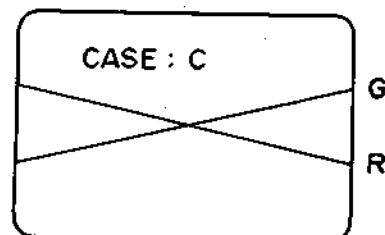

FIGURE 4
2. Observing RED and GREEN horizontal centre lines, connect the plugs with terminals according to one case (A), (B), (C), as shown in Figure 4.
11. If necessary, readjust centre convergence magnets and dynamic convergence controls for best convergence. When RED and GREEN horizontal lines do not converge at the left and right of the picture, remove the plug, the green magnet and adjust centre convergence. Observing RED and GREEN horizontal lines connect the receptacles as shown in Figure 4 according to the condition of RED and GREEN horizontal lines convergence.